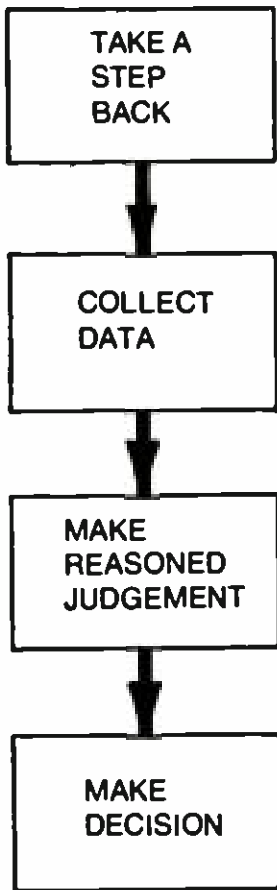

Fig. 2-3. One troubleshooting method, in condensed form.
Restating this method in condensed steps (Fig. 2-3): (1) Take a mental step back from the equipment, (2) Collect data and facts by a careful observation of what is taking place, (3) Arrive at a reasoned judgement based on the facts uncovered, (4) Make whatever decision is required.